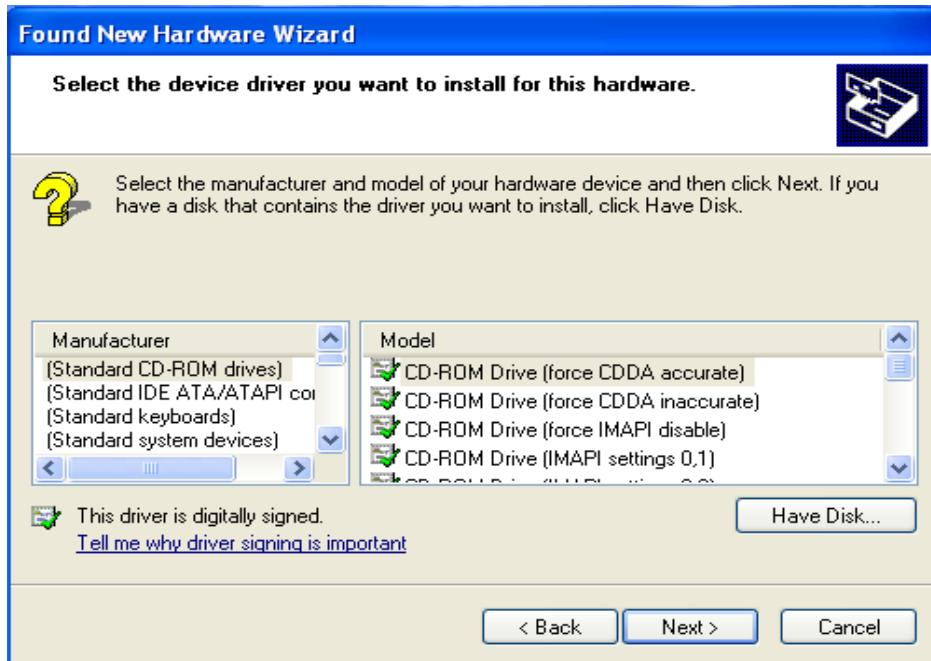

Figure H-6. Select device driver window
3. Hardware Type Window appears, Select **Show All Devices** option, and click **Next** button. Click **Have Disk** button when Select device driver window appears (Figure H-6).